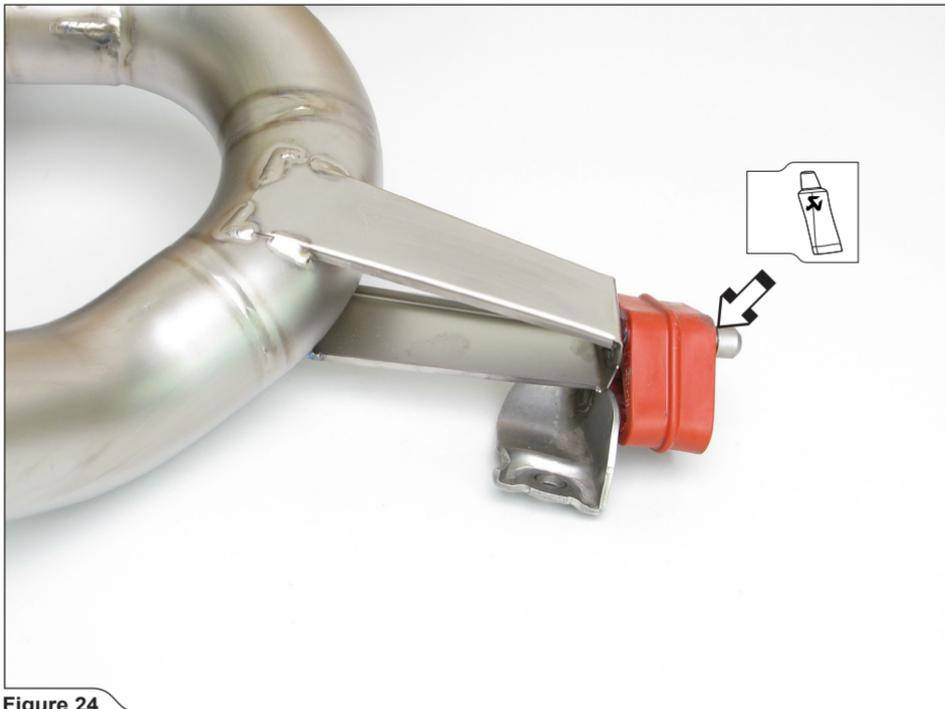

Figure 24
10. **For Slip-On and Evolution:** attach the stock rubber brackets to Akrapovič muffler as shown (Figure 24).